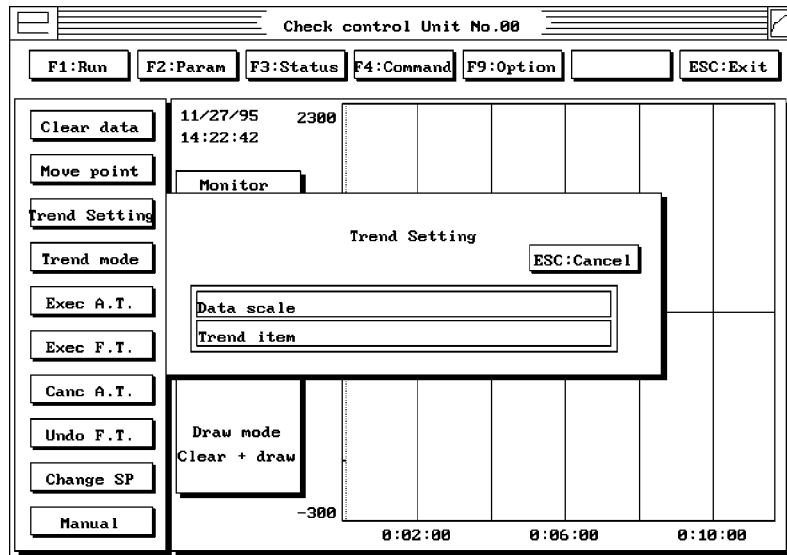

Figure 23
2. From the pop-up menu, select **Trend Item** (Figure 23).